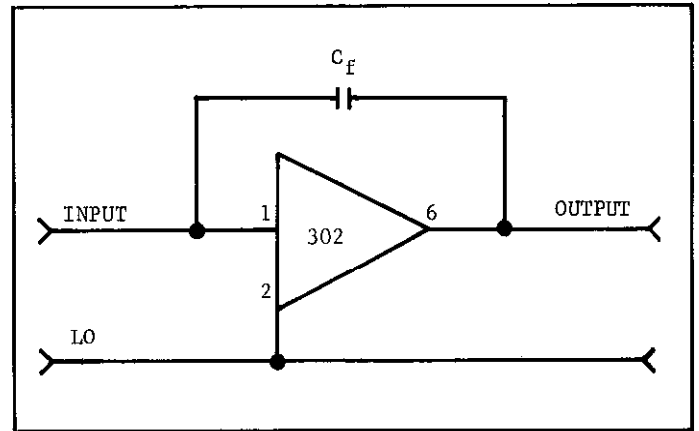

FIGURE 10. Current Integrator.
e. Current Integrator or Charge Amplifier. In this configuration, a feedback capacitor  $C_f$  is connected between the Input (Pin 1) and the Output (Pin 6). The capacitor should be a low-leakage type such as polystyrene, mylar, or polycarbonate. Fractional feedback can be used to vary the sensitivity without changing capacitors. See Figure 10.